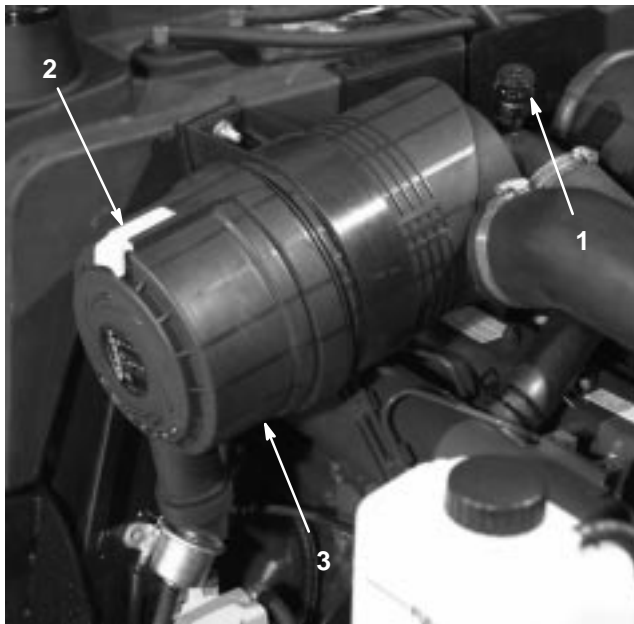

Figure 45
Service the air cleaner filters when the air cleaner indicator (Fig. 45) shows red or every 400 hours (more frequently in extremely dusty or dirty conditions). Do not over-service the air filter.
1. Pull the latch outward and rotate the air cleaner cover counterclockwise. Remove the cover from the body (Fig. 45). Clean the inside of the air cleaner cover.
8. Reset the indicator (Fig. 45) if it shows red.